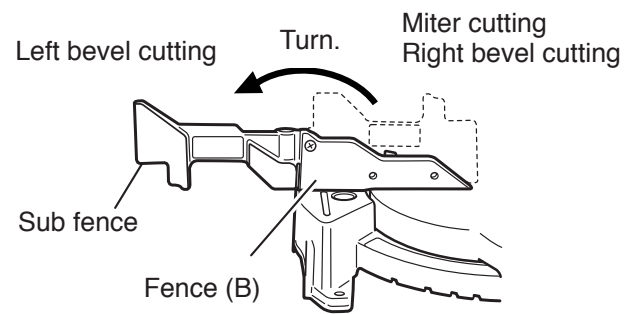

Fig. 11
The Models C 10FCH2 and C 10FCE2 are equipped with sub fence (B). Use sub fence (B) for miter cutting and right bevel cutting. Sub fence (B) supports the workpiece widely for stable cutting. In the case of left bevel cutting, raise sub fence (B) as illustrated in Fig. 11 and turn it counterclockwise.